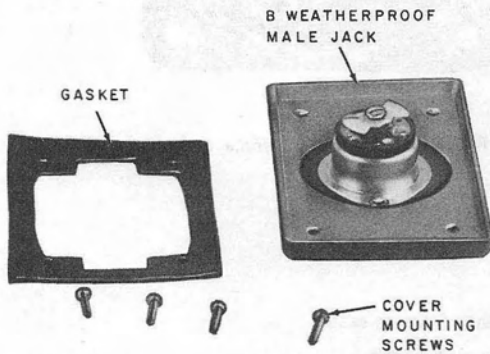

Fig. 53—B Weatherproof Male (or Female) Jack
3.09 The B weatherproof jack (Fig. 53 and 54) mounts in the B outlet box on the recreational vehicle and receives the female plug of the B weatherproof cord to provide telephone service to recreational vehicles. The jack has a spring-loaded hinged cover to make it weatherproof when not in use. Three screw terminals stamped R, T, and GR on rear of jack provide connection to ring, tip, and ground.
3.10 The B weatherproof female jack (Fig. 53 and 55) looks the same as the male jack except for the pins, and mounts in the B outlet box at the trailer service pad or on the dock at the marina. It receives the male plug of the B or C weatherproof cord.